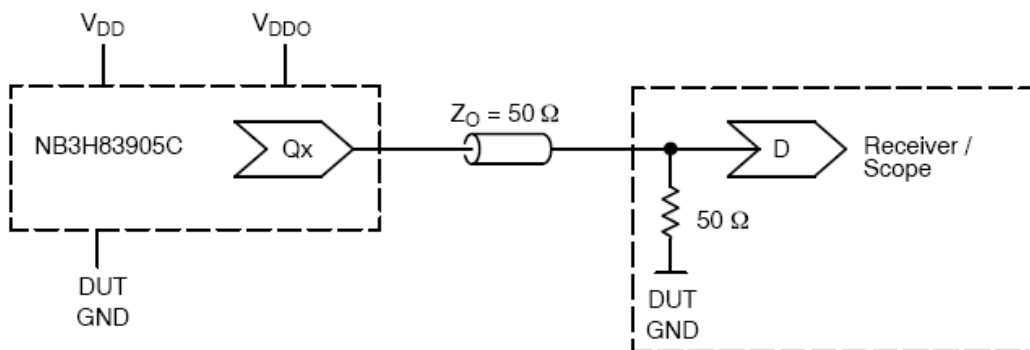

Figure 4. Typical Device Termination Setup and Termination Test Setup
1) **Test Supply Setup:** VDDO and GND Supplies may be centered on 0.0 V to permit direct connection to an Oscilloscope module (with 50 Ohm to GND) per **Figure 4 Typical Device Termination Setup and Termination Test Setup** and **Table 1, Test Voltages**. Connect all board supplies using banana jack or clip anvil.